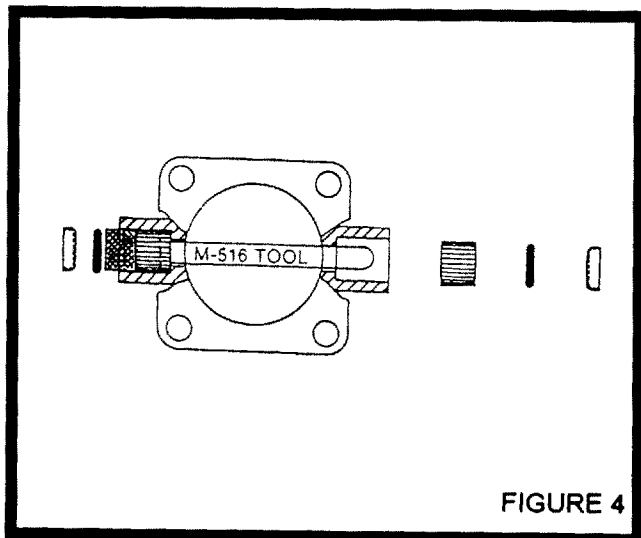

FIGURE 4
67) Assemble throttle shaft bushing (49) with installation and alignment tool M-516 as shown in Figure 4 in the following method:
69) Install shaft packings (36) and retainers (46) using throttle shaft packing assembly tool M-105. Install throttle shaft (3), being careful not to damage throttle shaft packings. Install throttle valve (4) and throttle valve screws (8). Run screws in lightly in place, rotate the shaft to closed position and tap the valve lightly with the screw driver blade to seat the valve in throttle bore. Hold the throttle valve closed and tighten the screws. Torque screw to 10-15 inch pounds.
- 70) Safety stake the screws (8) using tools M-100 arbor and tool M-107 staking punch. Three or four punch marks around edge of screw threads should suffice. Do not over peen.
- 71) Install throttle opening spring (27) when used. Place throttle operating lever (2) in proper angle location on throttle shaft and secure with retaining nut (13), torque to 25-60 inch pounds. Install cotter pin (61) and safety.
- 72) Install throttle stop-pin (53) and push nut (67) as shown when used.
- 73) Pump and Economize linkage when used, should be pre-assembled. Assemble lever (80), link (82), pins (74), Tru-Arc rings (64), pump link bolt (73), plate (85), and center nut (66) in the manner shown in the exploded view. Torque nut to 10-15 inch pounds.
- 74) Attach lever with assembly where used, to the throttle shaft using locating screw (6), secure the locating screw (6) in place and then clamp the lever (80) in place with screw (12), torque to 20-28 inch pounds. Bend tap washer (59) to safety clamp screw. Torque to 10-12 inch pounds, and safety wire the locating screw (6) through the clamping slot in lever (80).
- 75) Referring to Figure 4, insert the economizer rod (76) using insert guide tool M-522 on threaded end to preclude seal damage. Push rod thru. Secure rod to plate (85) with nut (66). Torque to 10-15 inch pounds.
- 76) Install pump inlet check valve (32), torque to 10-15 inch pounds and insert pump plunger (84) into pump well in body (1).
- 77) Install pump guide (69) locating the guide legs to clear the pump rod slot in body (1).
- 78) Referring to Figure 4, insert pump rod (75) with insert guide tool M-522 on threaded end and push thru. Connect to pump unit with tru-arc ring (60).
- 79) Connect rod (75) to plate (85) with nut (66). Torque to 10-15 inch pounds.